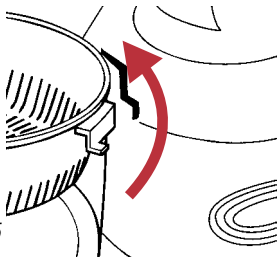

Fig 15
3. Rotate anti-clockwise, ensuring that the citrus juicer bowl tab has locked into place, see Figure 15.